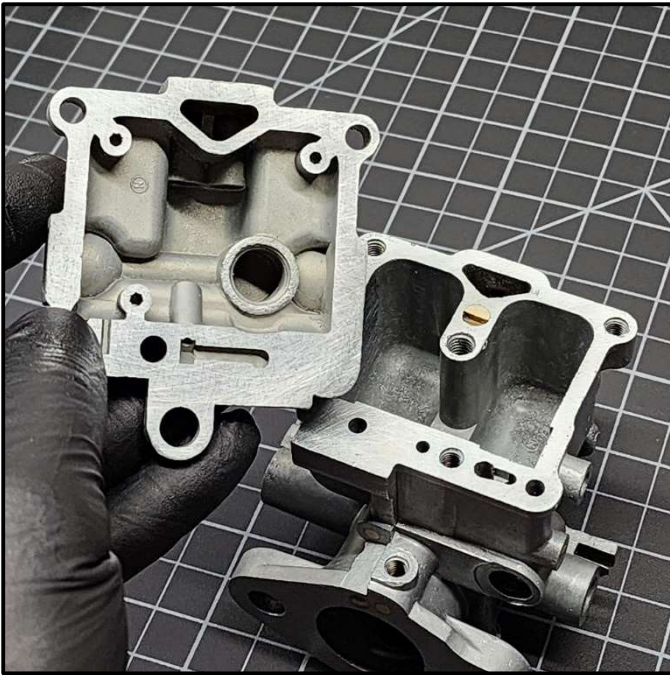

Figure 13 – Both mating surfaces are planed and the parts have been cleaned using carb cleaner to remove all metal particulates from the planing process.
3.b With a chemical cleaner such as carburetor cleaner or acetone, clean off the mating surfaces, as well as all the passages, to ensure there are no metal shavings or residue remaining from the previous step (fig. 13). It is important to ensure that the mating surfaces are left clean, dry, and free of all chemical residue before test fitting (fig. 14).